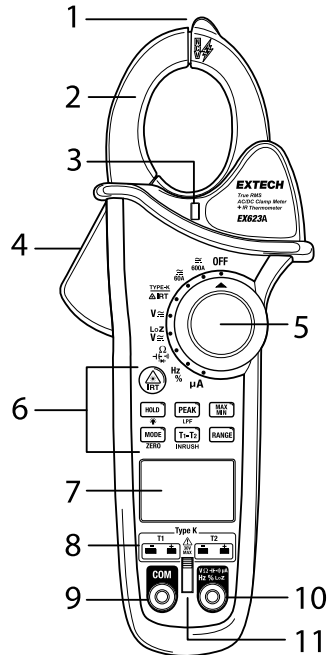

Figure 3.1 Meter Front.
Refer to Figure 3.1 below for these numbered items.
The input shutter is located between the two test lead jacks on the front of the meter (item 11, in Figure 3.1). Its purpose is to prevent the user from simultaneously connecting thermocouples and test leads to the meter.